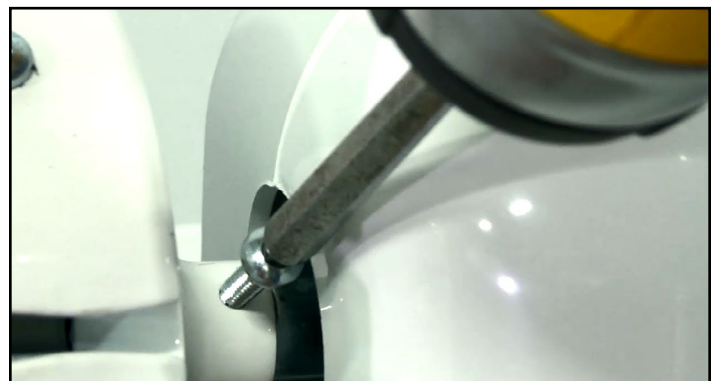

Fig.22
15. Align the holes from the shaft on the head to the end cap and secure with the provided #8 - 32 x 1/2" wax screw (**Fig.22**).